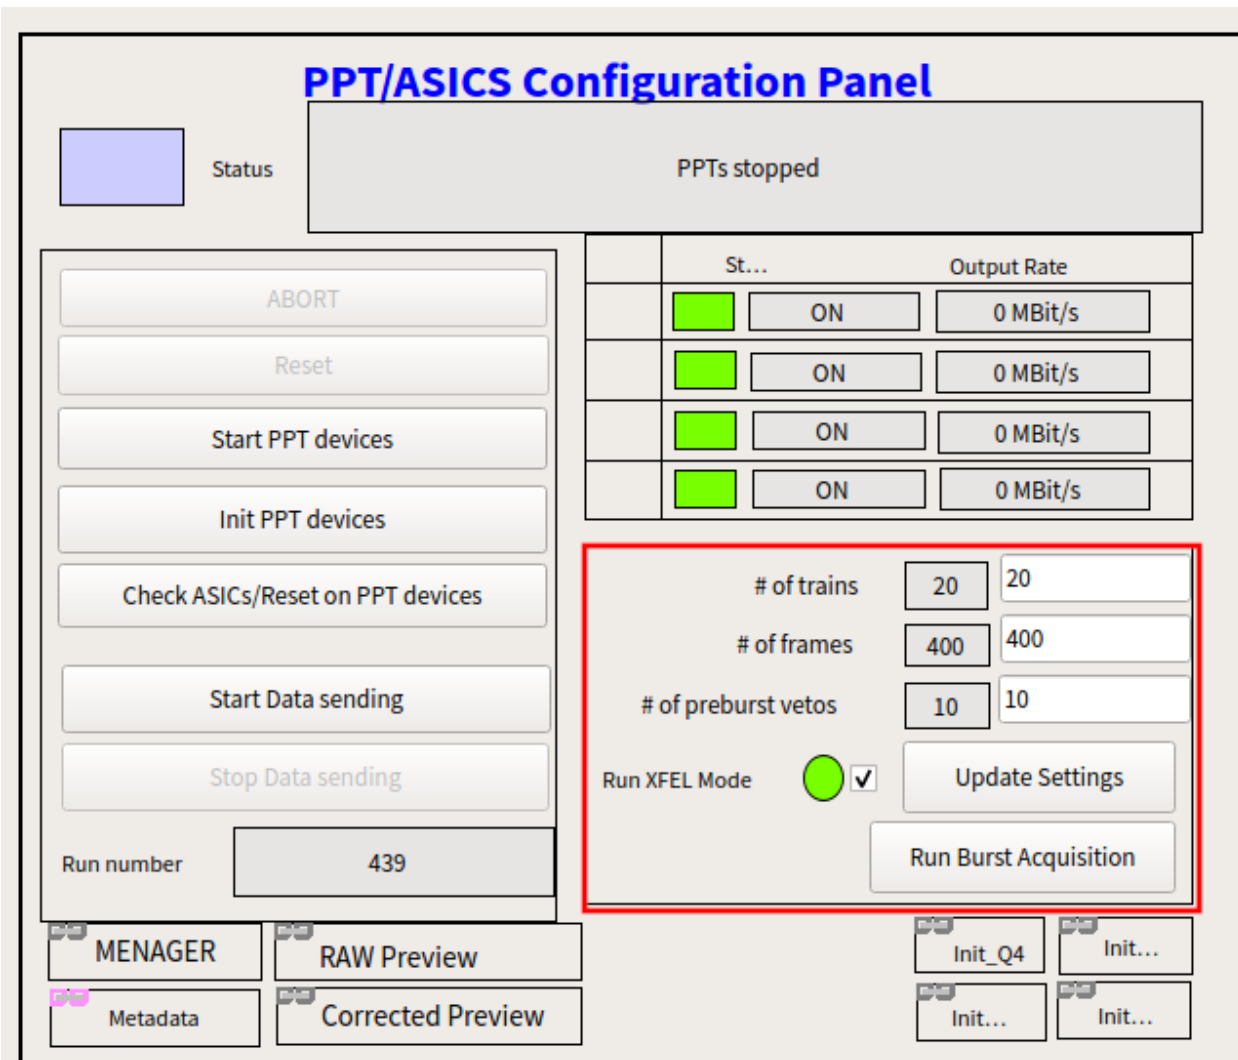

Fig. 5.2: DSSC PPT and ASICs configuration pannel. The panel also is used to configure DSSC # of frame per train.
2. Use the DSSC_Main scene. There at PPT/ASICS Configuration Panel (see Fig. 5.2), one can set the number of trains to be sent (number of iterations) as well as the number of pulses per train (frames to be sent). The ‘Preburst Vetos’ parameter shall not be changed by non-experts.